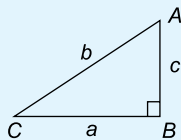

Figure 1.8
- In the right-angled triangle ABC shown in Figure 1.8, $\sin A$ is given by:
- In the right-angled triangle ABC shown in Figure 1.8, $\cos C$ is given by:
- In the right-angled triangle ABC shown in Figure 1.8, $\tan A$ is given by: